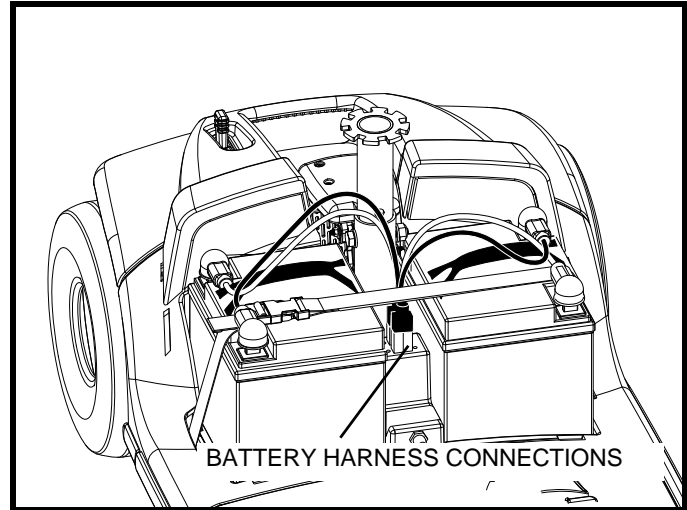

Figure 26. Harness Connections
4. Unplug both battery harnesses by depressing the tabs and then pulling each harness straight up. **See figure 26.**
6. Connect both battery harnesses. See **figure 26**.